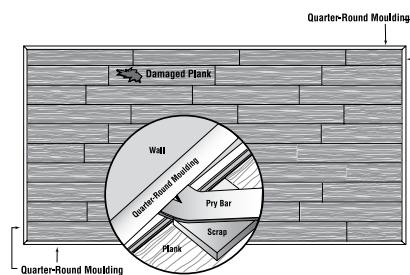

Fig. 5
- In case of a major problem with the locking system, it is possible to replace an entire piece of the flooring. In most cases, just remove the molding from the walls nearest the damaged board (Fig. 5).